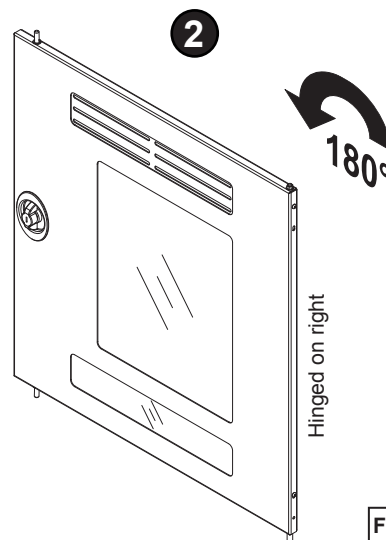

Figure 6C
2. Rotate the door 180°. **Figure 6C.**